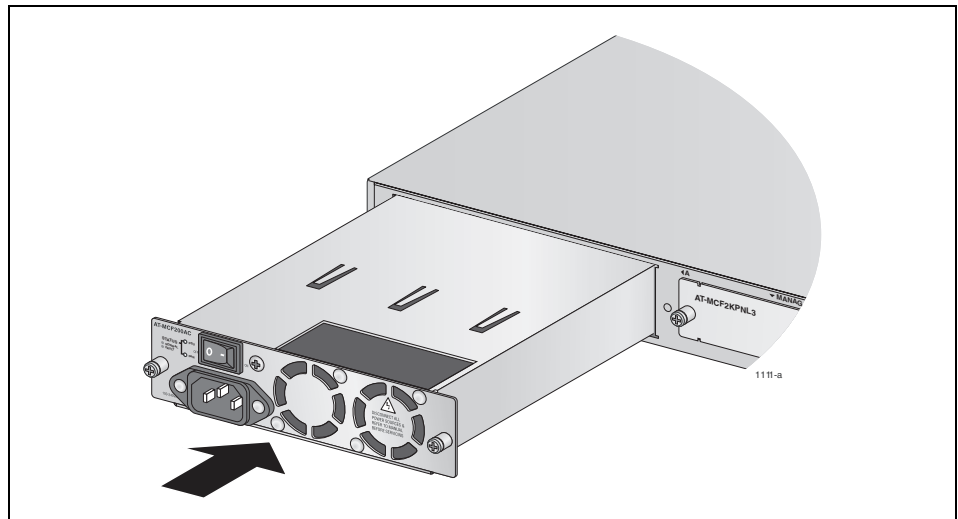

Figure 44. Installing the AT-MCF2000AC Power Supply Module
- Position the module as shown in Figure 44 and slide it into the slot until it is flush with the chassis. You may need to exert light pressure to seat the module on the connectors on the back panel in the chassis.